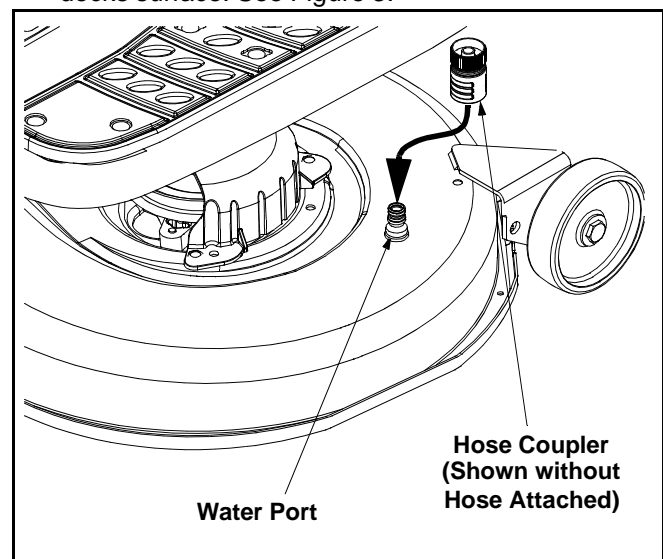

Figure 3
4. Attach the hose coupler to the water port on your decks surface. See Figure 3.